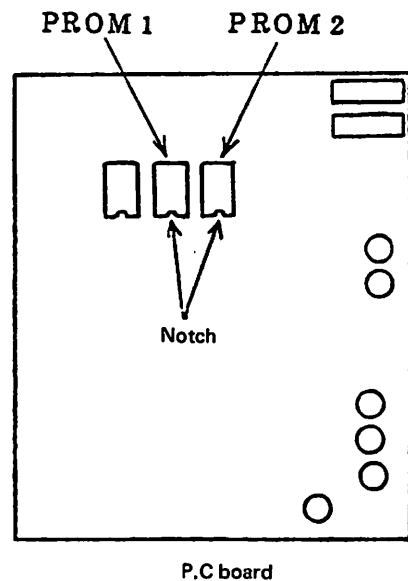

Fig. 17
- (1) PROMs are found at the places shown in Fig. 17.
- (2) 10 patterns have been stored by us in the PROM1.
- (3) If further patterns must be stored, remove the PROM2 and store the desired patterns in it.